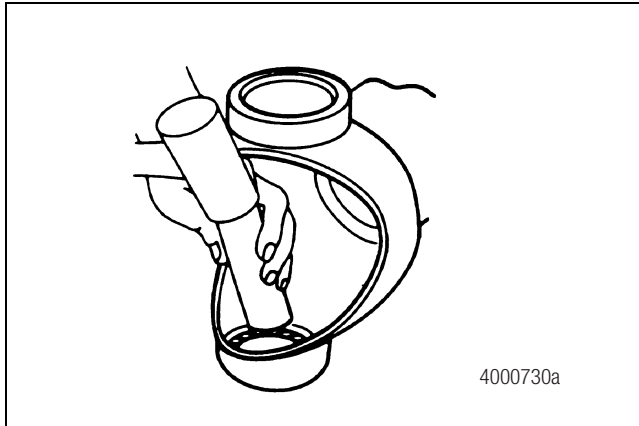

Figure 4.10
16. Use a sleeve that is slightly smaller than the socket bore to drive the socket plug and bushing toward the outside of the socket using. Figure 4.10.